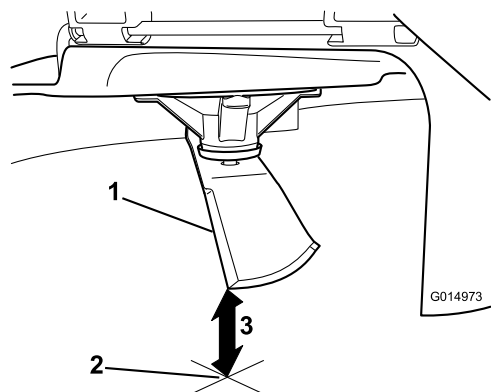

**Figure 53**
3. Measured distance between blade and the surface (A)
4. Rotate the same blade 180 degrees so that the opposing cutting edge is now in the same position (Figure 53).